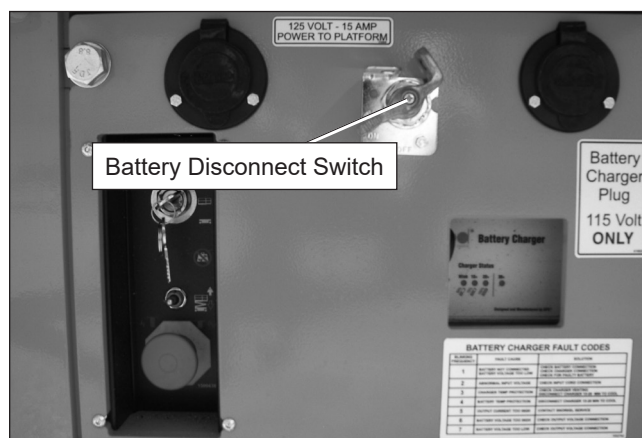

Figure 6.1 – Rear of Chassis
1. The battery disconnect switch is at the rear of the chassis, below the entry step (refer to Figure 6.1). Turn the battery disconnect switch off.